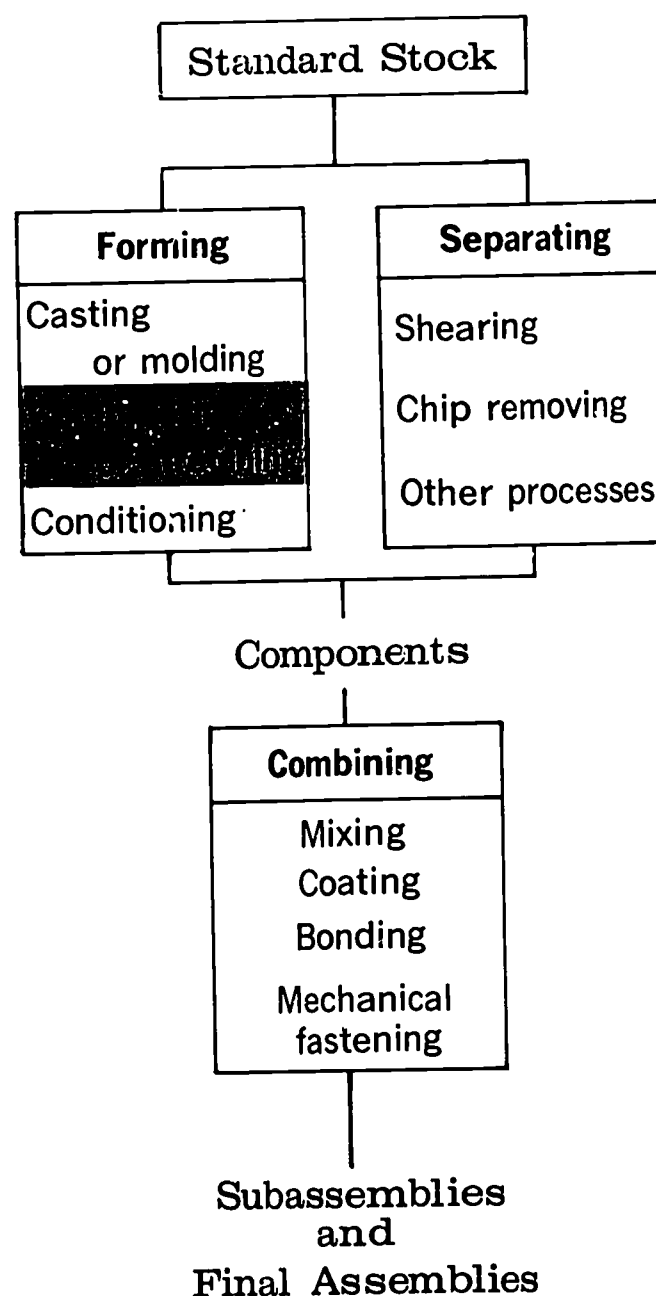

Fig. 51-1. Compressing or stretching, in the shaded area above, is discussed in this reading.
You have learned about the forming processes of (1) casting or molding, (2) compressing or stretching, and (3) material conditioning. In this reading you will learn more about forming by compressing and stretching processes, Fig. 51-1.